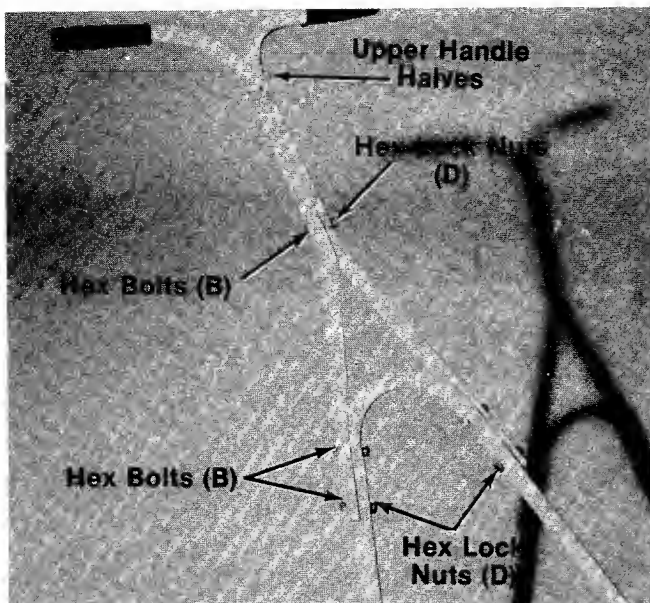

FIGURE 5.
8. Assemble the upper handle halves to lower handle using five hex bolts (B) and lock nuts (D). Only tighten finger tight. See figure 5.